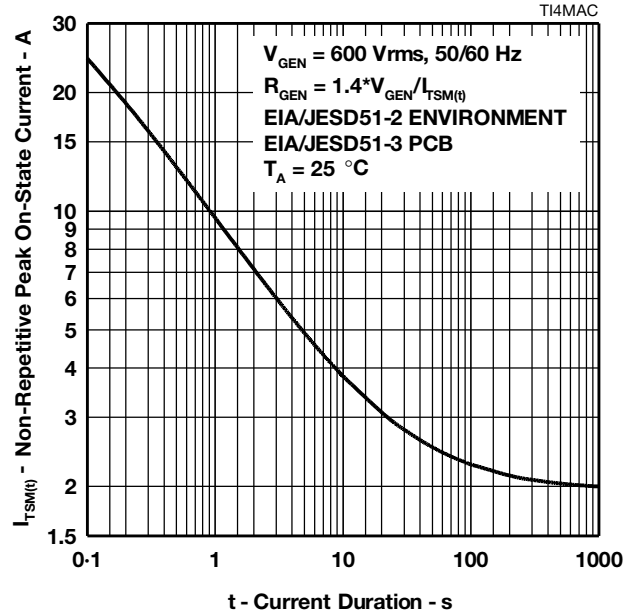

Figure 11.
10. EIA/JESD51-2 environment and EIA/JESD51-3 PCB with standard footprint dimensions connected with 5 A rated printed wiring track widths. See Figure 11 for the current ratings at other durations. Derate current values at  $-0.61\%/\text{C}$  for ambient temperatures above  $25^\circ\text{C}$ .